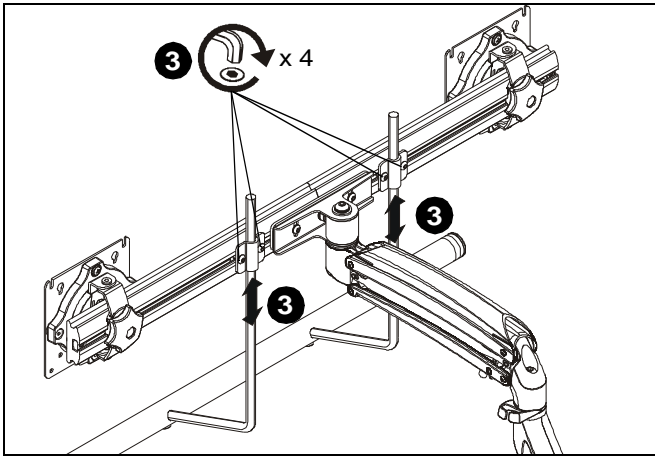

Figure 13
3. Position handle (J2) at desired height and secure by tightening button head cap screws attaching handle brackets to array. (See Figure 13)